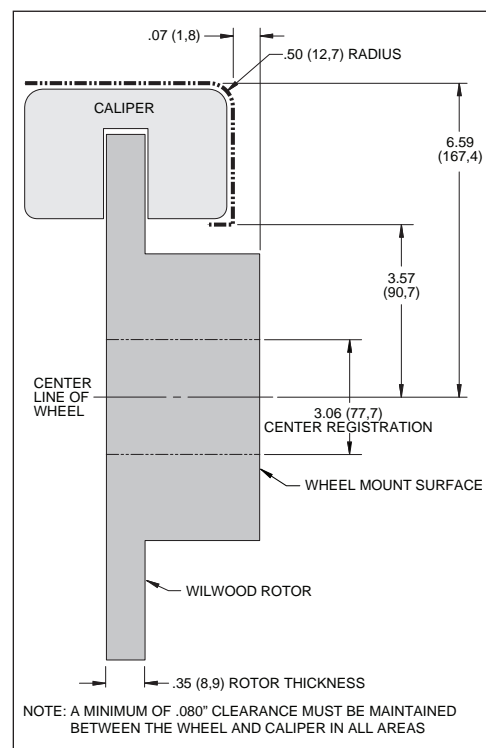

Figure 2. Wheel Clearance Diagram
- Review the Wheel Clearance Diagram (Figure 2, page 3) to verify that there is adequate clearance with the wheels you will be using with the installation.
- Verify wheel clearance using Figure 2.